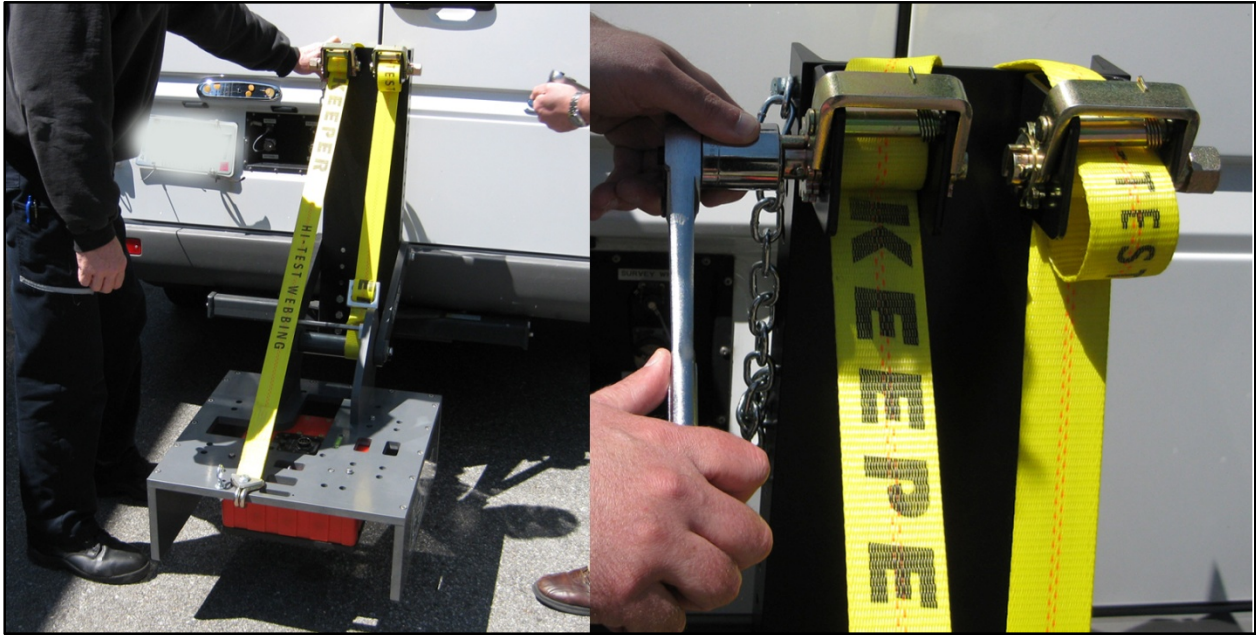

Figure 5: Affix ratchet straps.
- 4** Attach the yellow ratchet straps to the ratchet assemblies. Use an adjustable wrench or a 1 1/8 inch socket to take up the slack in the ratchet strap and to tighten (Figure 5).